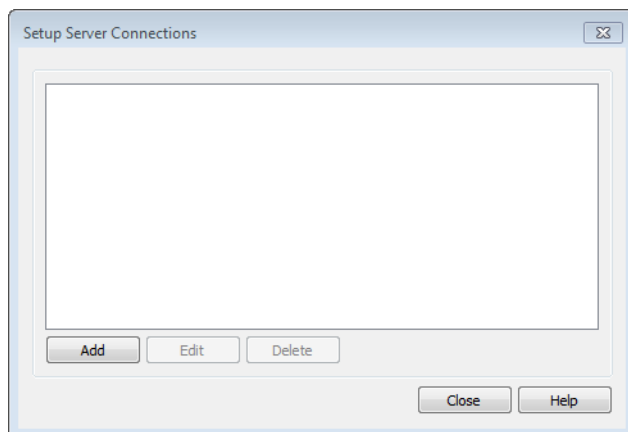

Figure 3.2 Setup Server Connections dialogue
5. The server name should now be listed in the 'Setup Servers Connections' dialogue shown in Figure 3.2. Click 'Close' to return to the 'Options' dialogue.